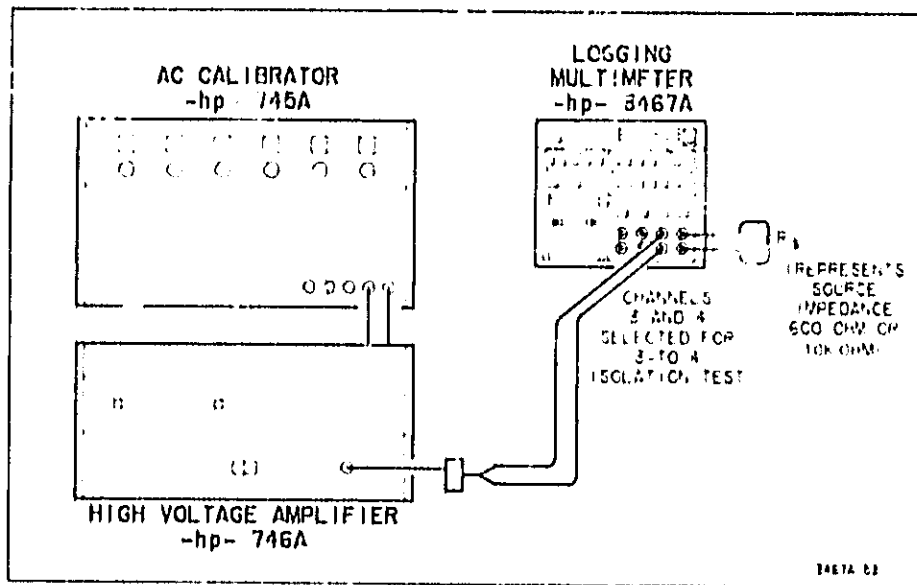

Figure 5-7. Scanner Isolation Test.
a. Set the Logging Multimeter to the ACV function, autorange. Connect the AC Calibrator to Channel 3 and the 600 Ω load to Channel 4 as shown in Figure 5-7 and select Channels 3 and 4.